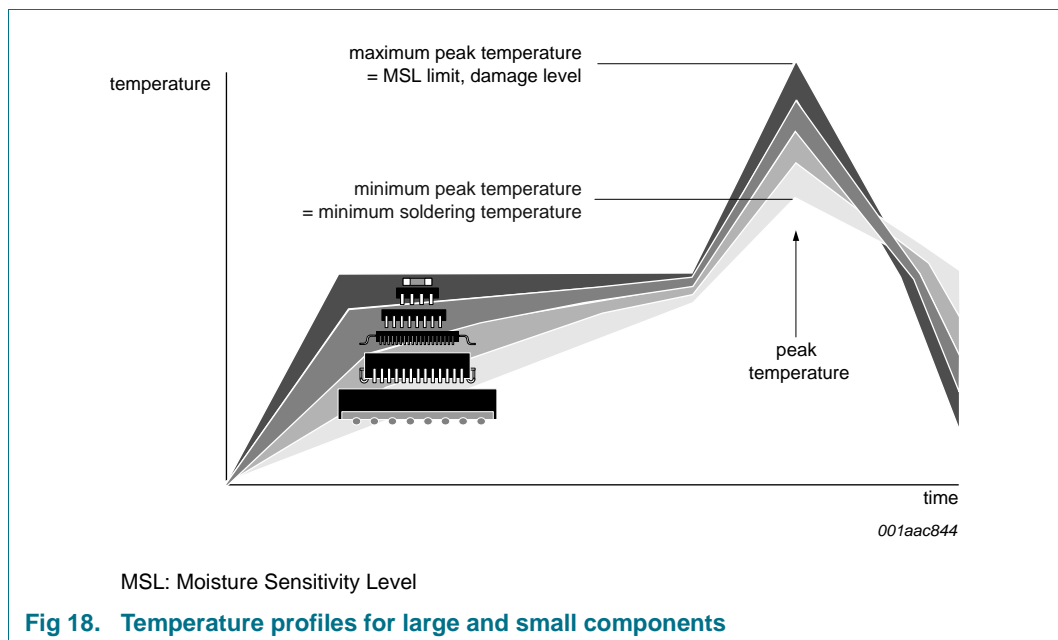

Fig 18. Temperature profiles for large and small components
- Lead-free versus SnPb soldering; note that a lead-free reflow process usually leads to higher minimum peak temperatures (see Figure 18) than a SnPb process, thus reducing the process window
Studies have shown that small packages reach higher temperatures during reflow soldering, see Figure 18.